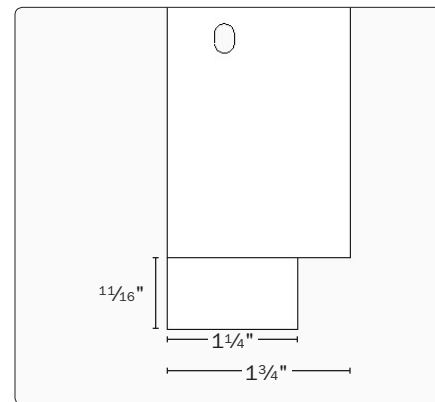
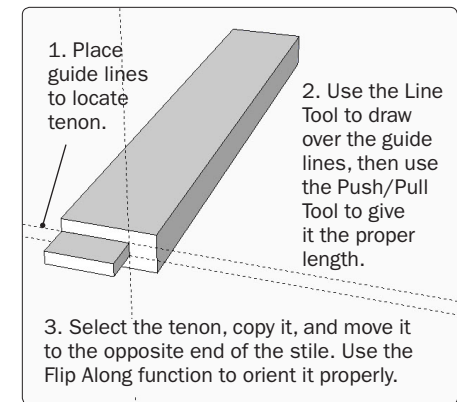

Figure 32. Dimensions for the tenons on the frame stiles.
Figure 33. Create the tenons on the frame stile.
Step 28 Create a temporary copy of the stile and move it slightly away from the table assembly. To make the stile tenons, place guidelines on one end to outline the shape and location. Figure 32 shows the tenon's length and width; it is $\frac{1}{4}$ in. thick, centered on the stile thickness, as shown in Figure 33. Select the copy of the stile component for editing. Trace over the guidelines with the Line Tool and use the Push/Pull Tool to give the tenon the proper length. Copy the tenon, use the Flip Along function, and connect the tenon to the opposite end of the stile. After creating the tenons on this copy, delete it.